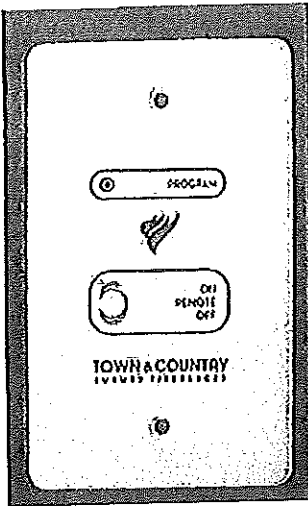

Figure 27: Town and Country wall switch.
- Move the center button on the wall control (Figure 27) to the "ON" position. The igniter will start to spark. After a short delay, the pilot will light followed by the main burner.